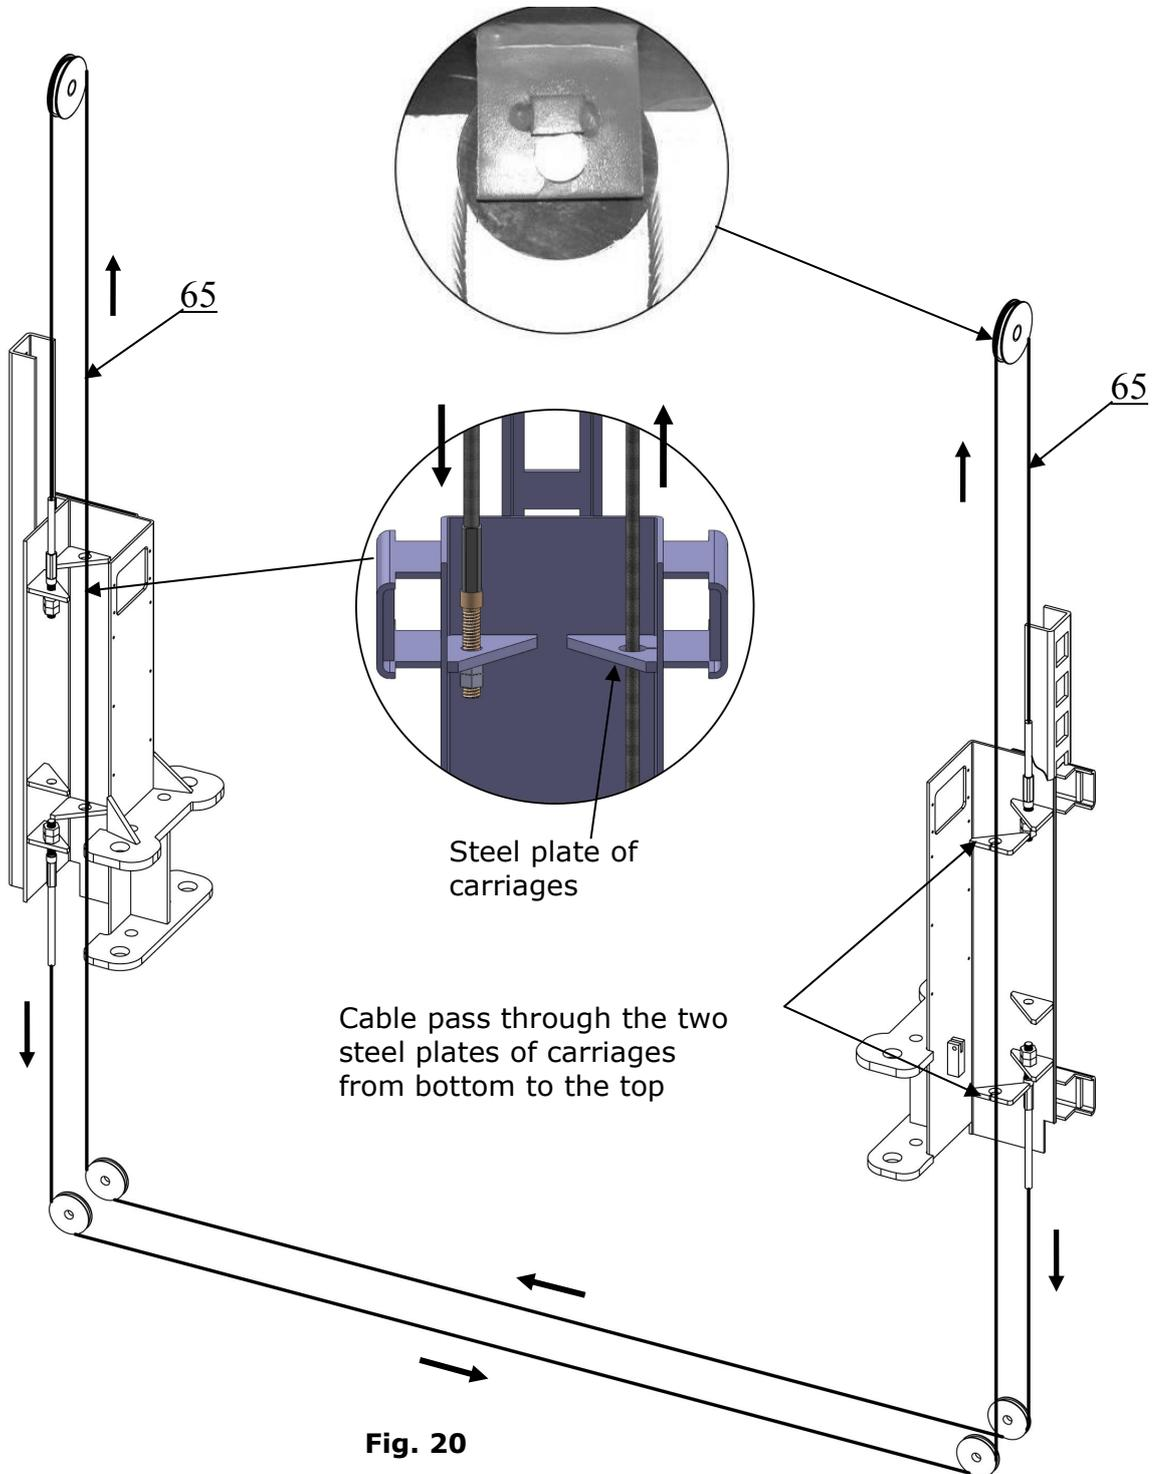

**Fig.19**
**H. Lift the carriages up by hand and make them be locked at the same level (See Fig.19).**